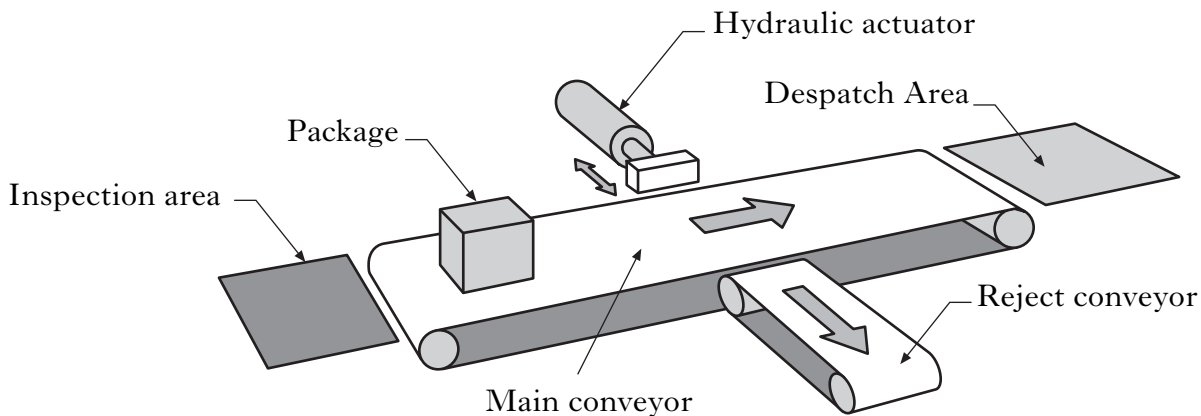

Figure Q7
- (a) Briefly explain the operation of a Normally Open (NO) contact in a PLC ladder diagram. 1
- (b) A mechatronic system has a Normally Open (NO) start contact (X0) and a Normally Closed (NC) stop contact (X1). The output Y0 is enabled and latched when the start button is pressed. Output Y0 can only be switched off when the stop button is pressed. Draw a Ladder Diagram to show how this could be implemented using a PLC. 3
- Note: the inserted PLC data sheet Q6, Q11 gives the PLC instruction set.** (5)
7. Figure Q7 illustrates an automatic inspection/sorting system.